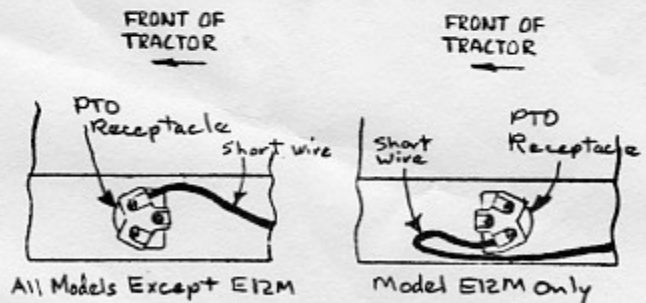

Fig. 7 - PTO Receptacle Wiring
7. Install stripped end of short wire to rear of PTO receptacle with existing wire number 24 as shown in Figure 7 .